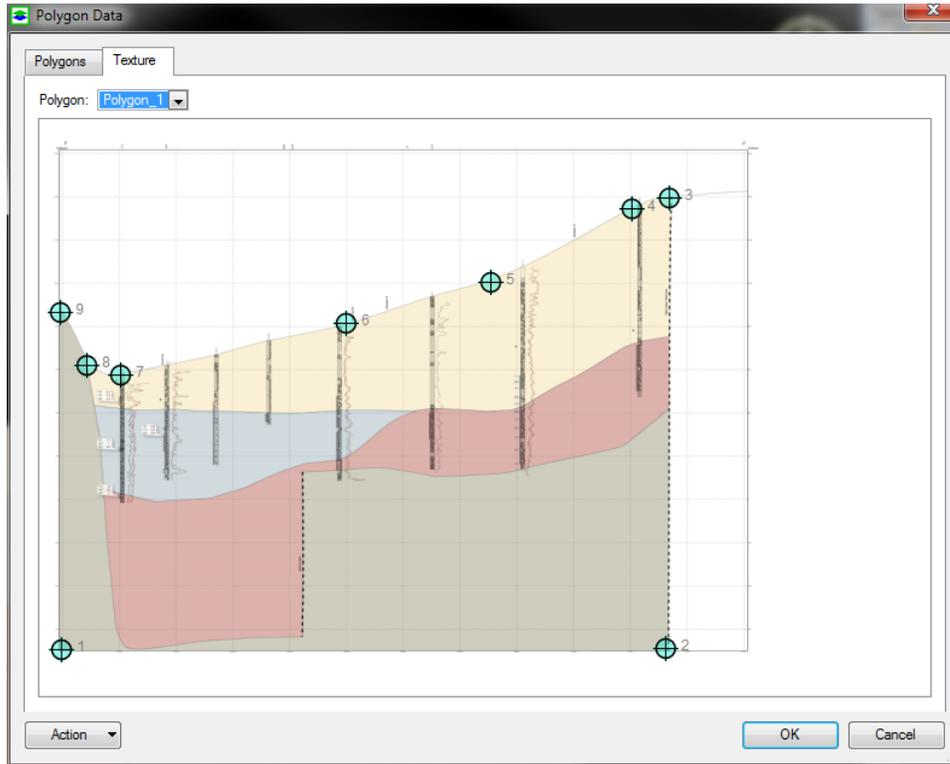
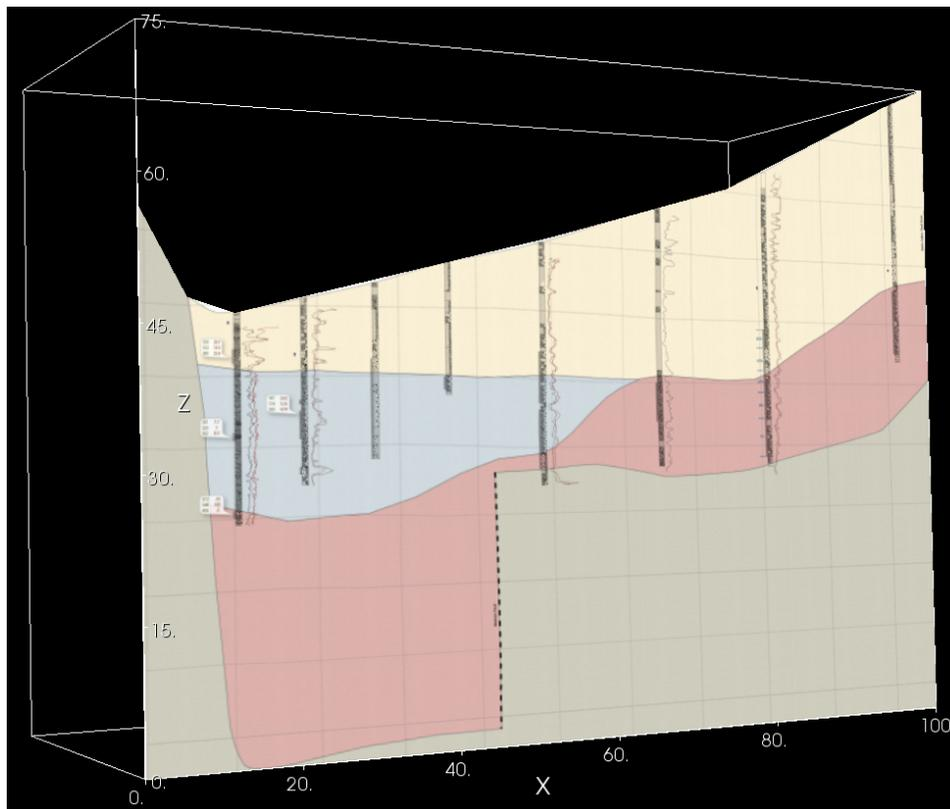

Figure 2.14. The Texture tab of the Polygon Data dialog box
Figure 2.15. A polygon with a texture image
- *Texture tab*: Use this tab to apply an image (or portions of an image) to polygon(s) created in the Polygons tab. First, select a polygon from the Polygon dropdown box, and then drag its vertices (⊕ with a vertex number) to the corresponding points on the image. For example, Figure 2.14 shows an image depicting a geological cross-section with the vertices 1 to 9 of a polygon that was entered in the Polygon tab. Figure 2.15 illustrates the texture-mapped polygon on the 3D Scene. If more than one polygon are defined in the Polygon tab, you can apply the same texture image to other polygons. If you need to use a different texture image, then you need to create a new Polygon object.